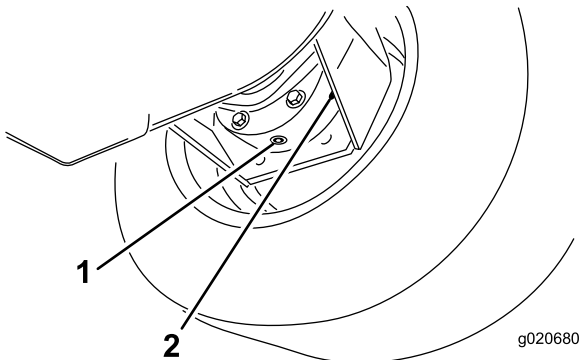

Figure 106
3. Place a drain pan under the brake housing, remove the drain plug, and allow the oil to drain (Figure 106).